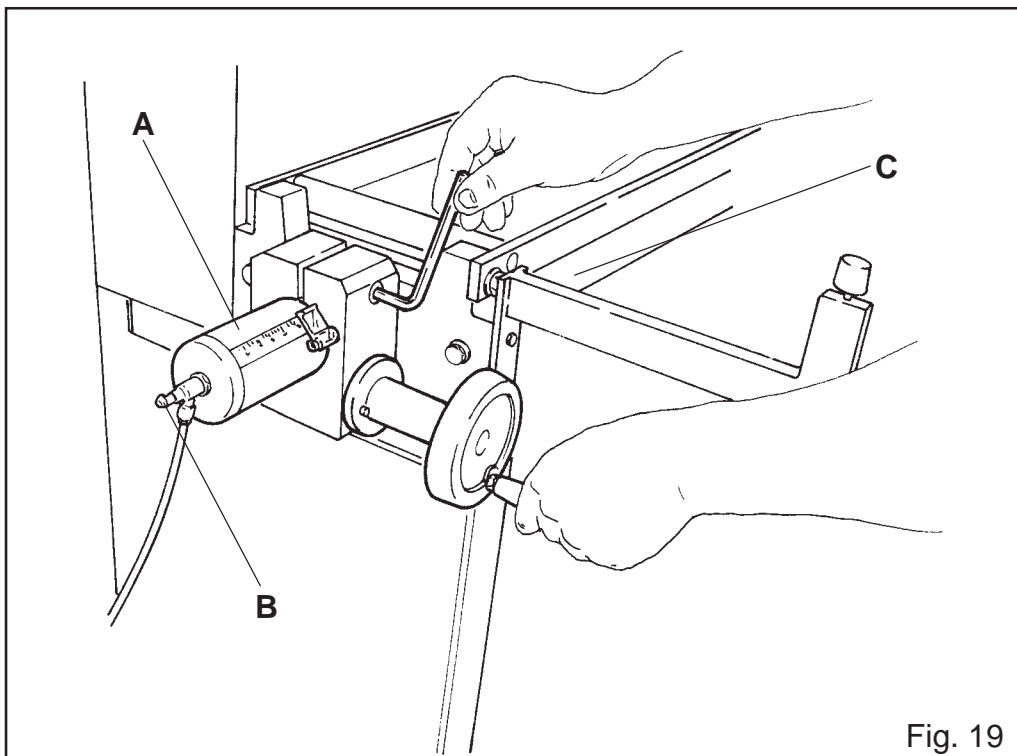

Fig. 19
- Turn in clockwise direction knob B (fig.19) to decrease the speed or in anti clockwise direction to increase it.
- Turn in clockwise direction knob C (fig.19) mounted on piston A (fig.19) to decrease the speed, or in anti clockwise direction to increase it.